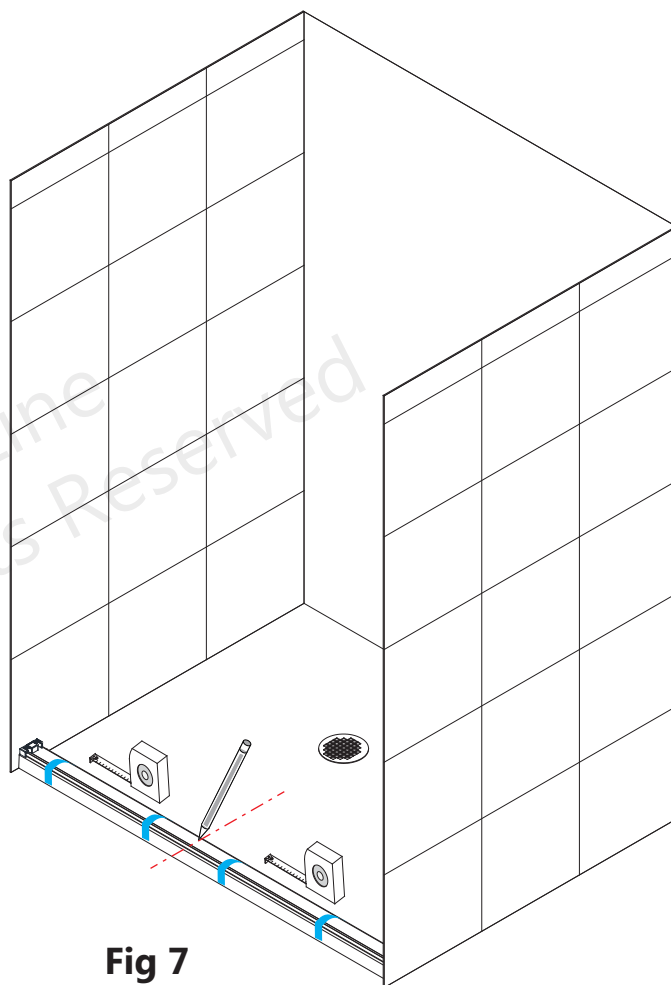

Fig 7
7. Measure across the width of the threshold to locate and mark the center. The **Center Guide Block (#10)** must be installed in the center of the threshold. (**Fig 7**)